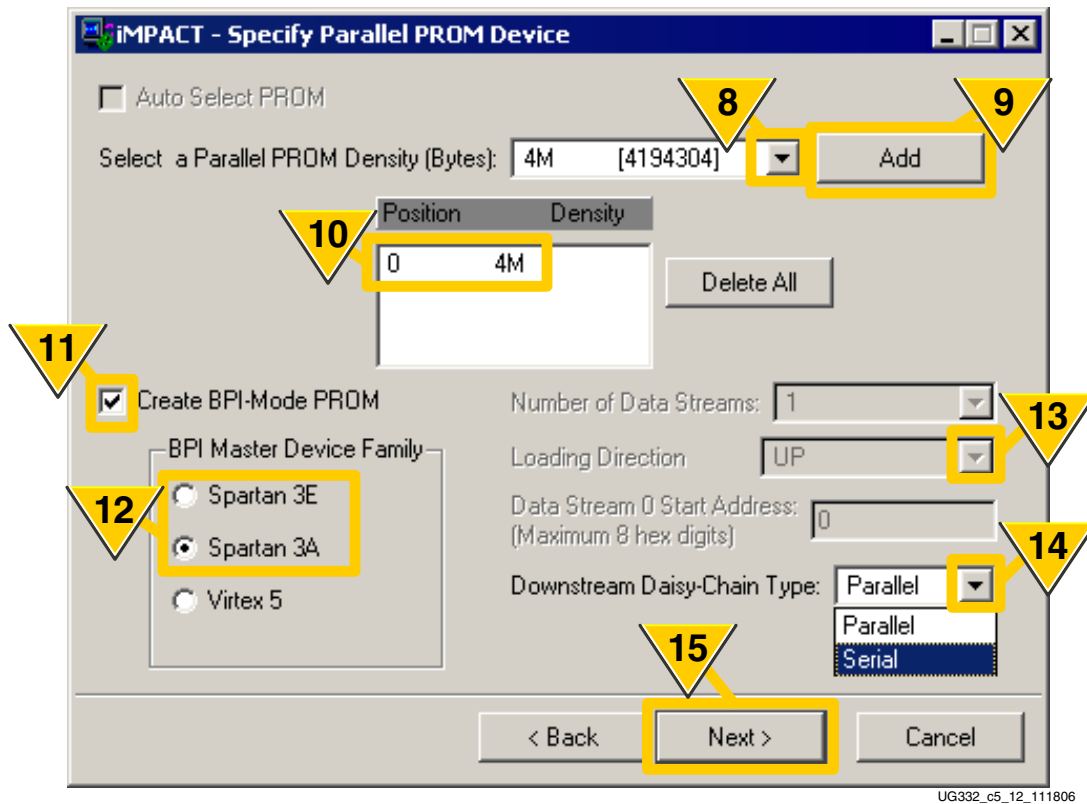

Figure 5-10: Select Parallel PROM Size and Configuration Style
The **CCLK** output from the master device operates at 8 times the frequency of the Flash read interface and CCLK synchronizes all FPGAs in the daisy chain. The master FPGA accesses the byte-wide Flash once every 8 **CCLK** cycles but provides serial data on its **DOUT** output to downstream FPGAs every **CCLK** cycle. iMPACT programming software automatically adjusts the CCLK frequency when serial daisy chains are selected in Step 14, Figure 5-10, page 165. In standalone BPI mode, the **ConfigRate** option determines the byte-wide interface frequency. When a BPI daisy chain is selected, the **ConfigRate** option determines the serial interface frequency, and the parallel Flash interface will run at 1/8 of that rate.
- As shown in Figure 5-10, select the Parallel PROM Density, measured in bytes. This example uses a 32 Mbit Flash PROM, equivalent to 4 Mbytes.